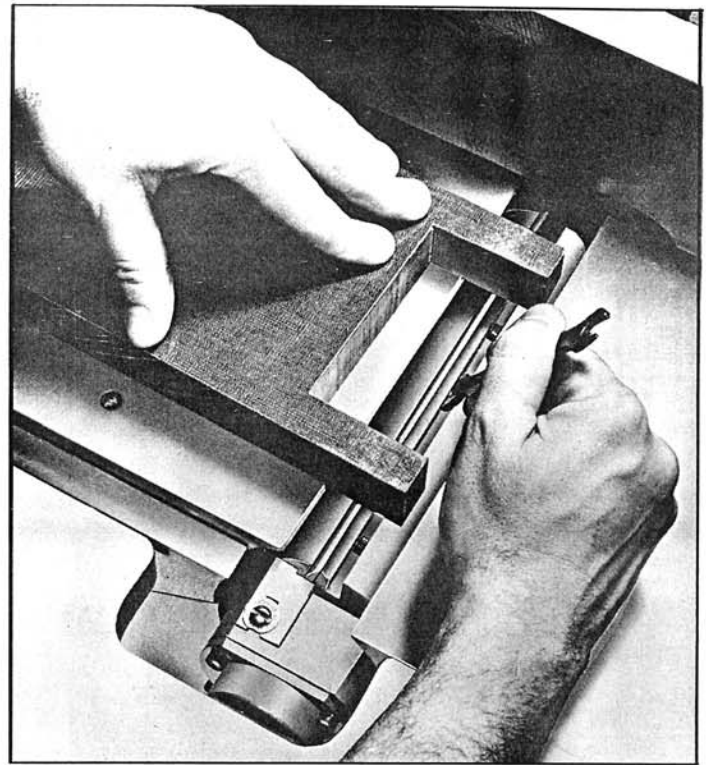

Fig. 9
10. Make a "U" shaped block out of hardwood, laminate or aluminum etc. Place this block on the rear table and gently push the knife down into the cutterhead, as shown in Fig. 9.
11. Turn the two end screws in the lock bar (backing them out) until they clamp the knife in place. Turn the remaining three screws in the same manner applying uniform pressure to the lock screws, as shown in Fig. 9.